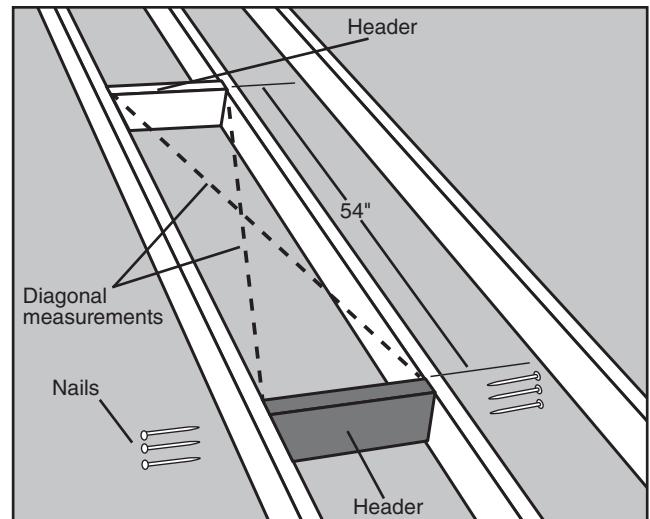

FIGURE 13 How to check for square
- STEP 5.** Position the second header 54" from the first one and repeat Step 4 (See Figure 13).
- STEP 6.** The frame for the rough opening requires four sides. The headers make up two of those sides. If your ceiling joists are spaced so that they make up the other two sides of the rough opening, check the opening for squareness by measuring across the diagonals. The measurements should be within 1/8" to be considered square (See Figure 13). If your ceiling joists do not make up the other two sides of the rough opening, you need to install one or two additional pieces of lumber to frame the other side(s) of the rough opening, go to “Installing Stringers” on page 16.